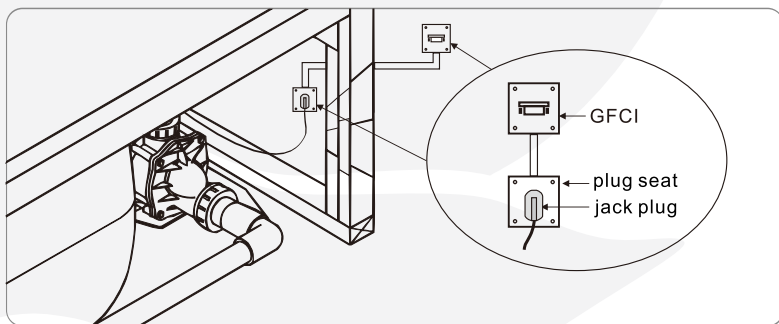

Figure 14
1. Connect the power wires to the leakage protection switch properly and fix them (as shown in Fig. 14).